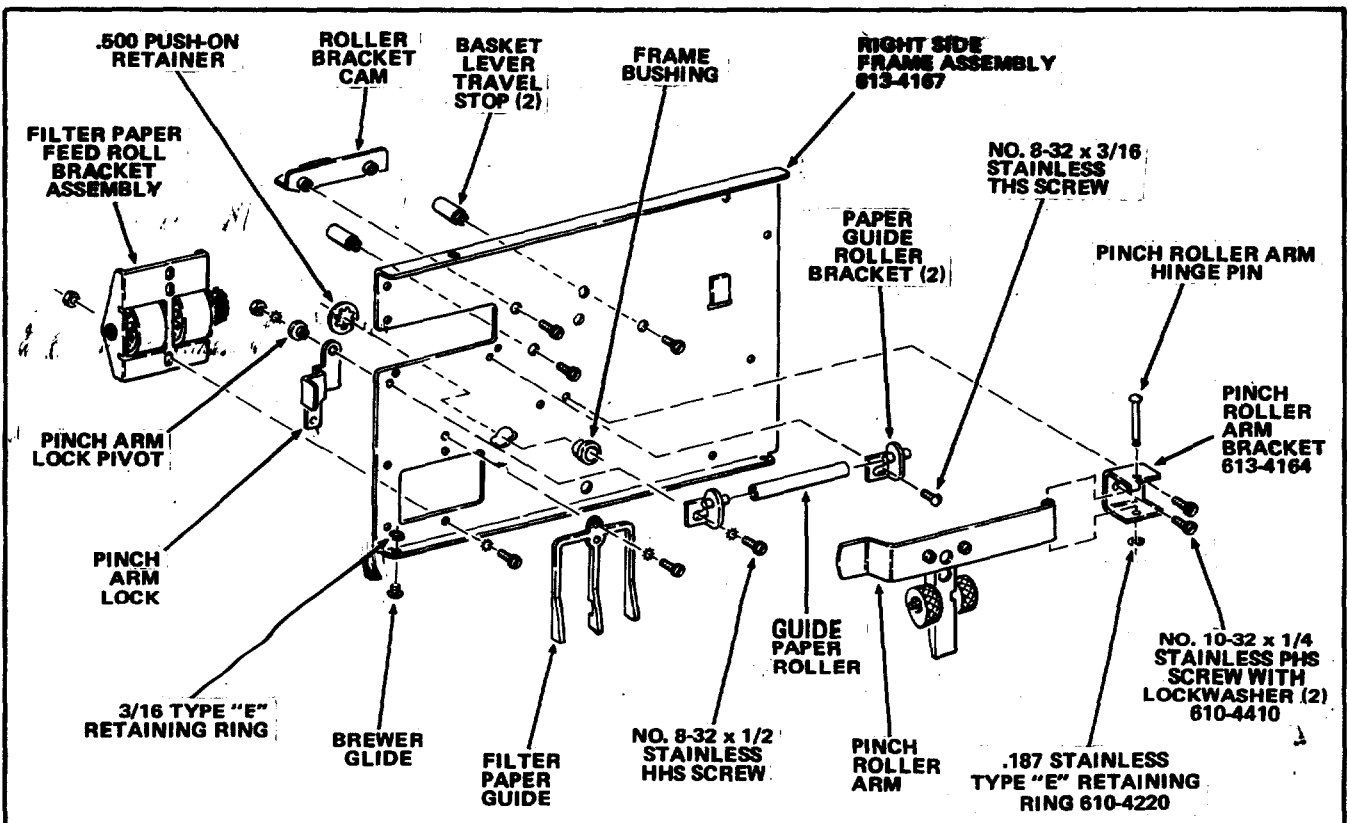

FIGURE 6
3. Install two Brewer Glides on the bottom edge of the replacement Right Side Frame Assembly, Part Number 613-4167, included in the Kit, and attach with two 3/16 Type "E" Retaining Rings. See Figure 6.
4. Install two Basket Lever Travel Stops on the inside of the Right Side Frame Assembly and attach with two No.10-32 x 1/2 Stainless Pan Head Screws with Lockwashers. See Figure 6.
5. Attach the Roller Bracket Cam to the inside of the Right Side Frame Assembly with two No.10-32 x 1/2 Stainless Pan Head Screws with Lockwashers. See Figure 6.
6. Attach the Filter Paper Feed Roll Bracket Assembly to the inside of the Right Side Frame Assembly by using a No.8-32 x 3/16 Stainless Hexagon Head Screw, two No.8-32 Stainless Lockwashers, and a No.8-32 Stainless Nut. Be sure the rollers on the Filter Paper Feed Roll Bracket Assembly can rotate freely. See Figure 6.
7. Attach the Filter Paper Guide to the outside of the Right Side Frame Assembly using two No.8-32 x 1/2 Hexagon Head Screws, four No.8-32 Stainless Nuts. See Figure 6.
8. Attach the Pinch Roller Arm Bracket, Part Number 613-4164, included in the Kit, to the Right Side Frame Assembly using two No.10-32 x 1/4 Stainless Pan Head Screws with Lockwashers, Part Number 610-4410, included in the Kit. See Figure 6.
9. Attach the Pinch Roller Arm to the Pinch Roller Arm Bracket with a Pinch Roller Arm Hinge Pin and a .187 Stainless Type "E" Retaining Ring, Part Number 610-4220, included in the Kit. See Figure 6.
10. Attach a Paper Guide Roller Bracket to the outside of the Right Side Frame Assembly with a No.8-32 x 3/16 Stainless Truss Head Screw. See Figure 6.
11. Fit the Guide Paper Roller on the Paper Guide Roller Bracket and fit the other end of the Guide Paper Roller on the other Paper Guide Roller Bracket installed in the Step B-10. See Figure 6.
12. Place the Pinch Arm Lock on the inside of the Right Side Frame Assembly and attach the Pinch Arm Lock and Paper Guide Roller Bracket to the Right Side Frame Assembly with a No.8-32 x 1/2 Stainless Hexagon Head Screw, two No.8-32 Stainless Lockwashers, a Pinch Arm Lock Pivot and a No.8-32 Stainless Nut. See Figure 6.
13. Install the Frame Bushing in the hole in the Right Side Frame Assembly and secure with a .500 Push On Retainer. See Figure 6.